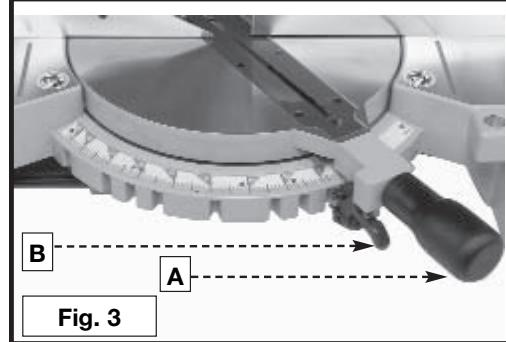

Fig. 3
Loosen the table-lock handle one or two turns. Raise the index lever (B) Fig. 3 and rotate the table to the desired position. Tighten the table-lock handle.